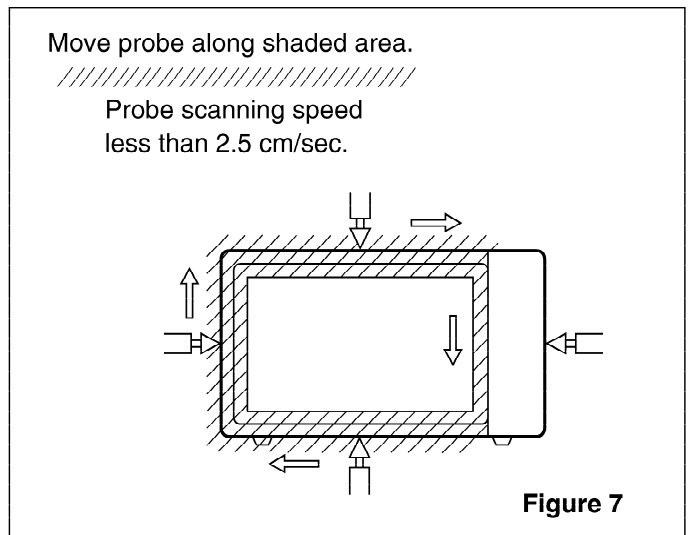

Figure 7
- (1) Pour $275\pm 15\text{cc}$ of $20\pm 5^\circ\text{C}$ water in a beaker which is graduated to 600 cc, and place the beaker in the center of the oven.
- (2) Set the energy leakage monitor to 2,450 MHz and use it following the manufacturer's recommended test procedure to assure correct result.
- (3) When measuring the leakage, always use the 2 inch (5cm) spacer supplied with the probe.
- (4) Operate the oven at its maximum output.
- (5) Measure the microwave radiation using and electromagnetic radiation monitor by holding the probe perpendicular to the surface being measured. (See Figure 7)